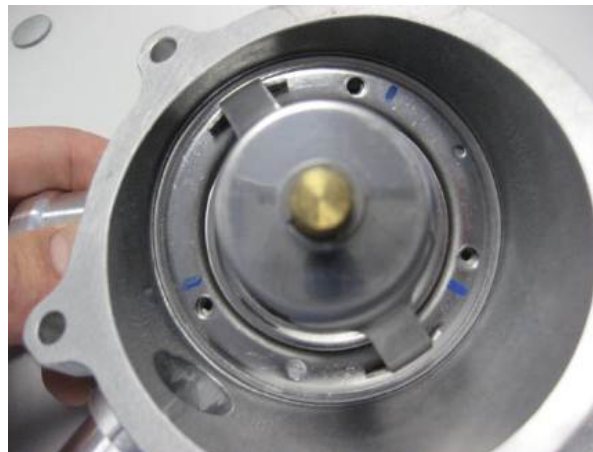

Figure 4. *New thermostat installed.*
5. Insert the new thermostat element (including insulation sleeve) into the housing (Figure 4).